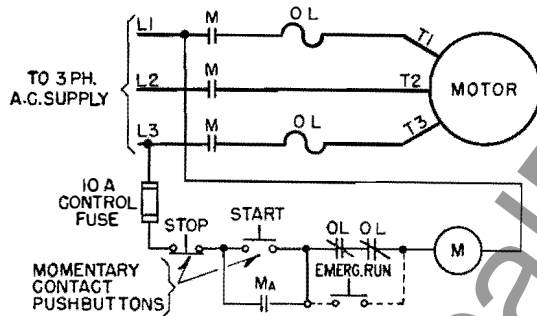

Fig. 4—Typical Low-Voltage-Protection Control Circuit for a Non-Reversing Linestarter (Dwg. 13-D-6535)
a. **Low-Voltage-Protection Control Circuit**—A typical low-voltage-protection control scheme for a Linestarter is shown in Fig. 4.
2. **EMERGENCY RUN**—When an emergency justifies the risk of damaging the motor by operating it overloaded, hold down the "Reset-Emerg. Run" button on the Linestarter and start in the usual manner. This mechanically holds the overload relays in the "Reset" position. If a remote master switch is used, an emergency run pushbutton (shown dotted in Figs. 4 and 5) is added. Holding down this "Emerg. Run" pushbutton shorts out the overload relay contacts "OL". If the overload condition has not